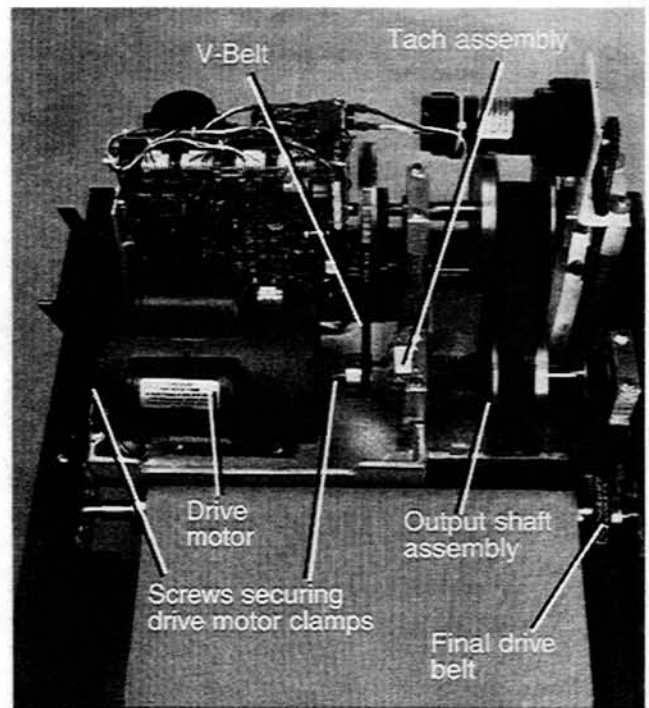

Figure 3-18. Output Shaft Assembly and Belts
5. Slip the output shaft assembly out of the variable speed belt and the final drive belt, then remove it (Figure 3-18).
3. Slip the output shaft assembly through the variable speed belt. See Figure 3-18.
3. Remove the variable speed belt. (Figure 3-18 on page 3-11).